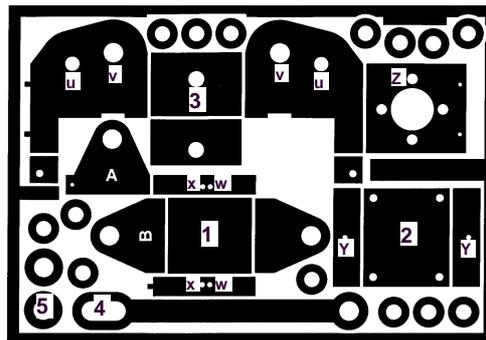
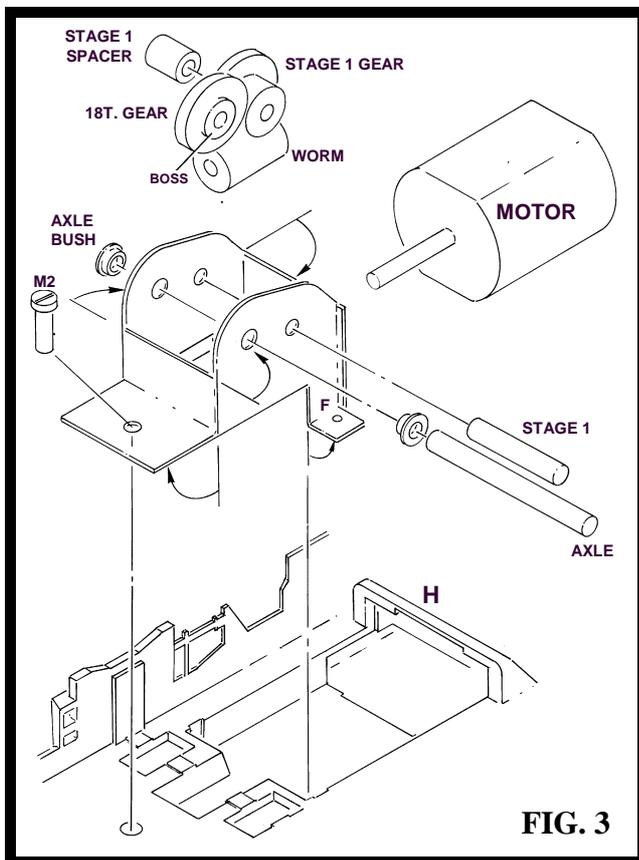

FIG. 1
FIG. 3
Before cutting any components from the fret, open out the various holes in the etches, as indicated in Figure 1. Their size is important to the alignment of moving parts and the more care you take to get a perfect fit, the better your model will run. Use a reamer to **open out holes** marked U so the gear shaft is a close fit. Deburr by twiddling with a large drill bit. Open up holes V so the axle bushes are also a tightish push-fit. The holes on the pivot mount are marked W (for 00) or X (for EM/P4). Open out **one pair only**, so that a length of 0.7mm wire will just pass through. Now open out the holes Y to the same size as W OR X. Check the motor screws will pass through holes Z in the motor mount. If you ream them very slightly oversize, it will allow for subtle adjustment of the gear mesh. Trim the gear shaft to 13.5mm - in 00, it may brush against the backs of the wheels if cut over-length.
Assemble the **rocking axle** first to get a feel for the kit. For an OO model refer to Figure 1, snap off section A from the cradle (1) and bend up section B as shown in Figure 2. The ends of the box will now protrude slightly and should be filed until they are flush with the sides. For an EM/P4 model, refer to Figure 1, snap off section B from the cradle (1) and then fold section A until the small hole H locates on the pin P, as shown in Figure 3. (Open the hole out slightly if necessary)
Remove the **mainframe** (3) from the fret and clean off any stubs, being careful not to file off the tabs used for part location. Solder the axle bushes in place and then fold into a box shape as shown in Figure 3 (all fold lines are on the inside). Small pins on the side of the unit locate into holes in the motor mounting plate and these hole may need enlarging slightly with a needle file. Use a suitable piece of wood to push together the surfaces to be joined and when satisfied, tack-solder them in place. This joint must be square or the mesh of the worm could be affected.